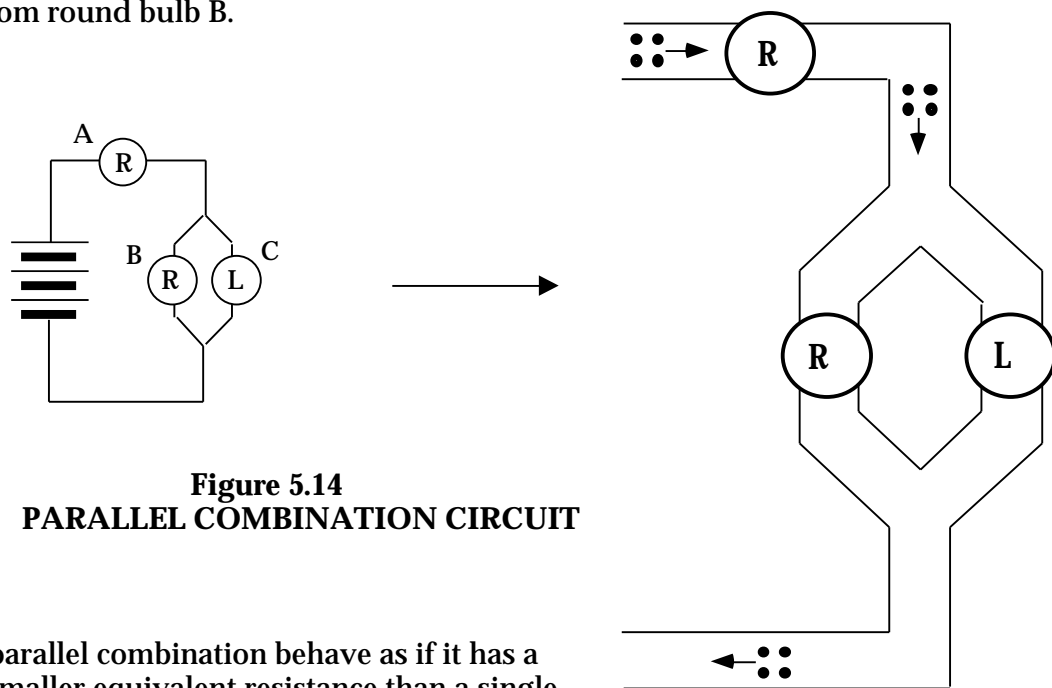

Figure 5.14
The ideas we have been developing will now be used to analyze the circuit in Figure 5.14. You will find it useful to connect the two round bulbs in series first, and then to observe how the brightness of the top round bulb A changes when the long bulb C is added in parallel with the bottom round bulb B.
2. Use the enlarged circuit at the right in Figure 5.14 to diagram the path of charges as they move through the parallel branches. Explain your reasoning.